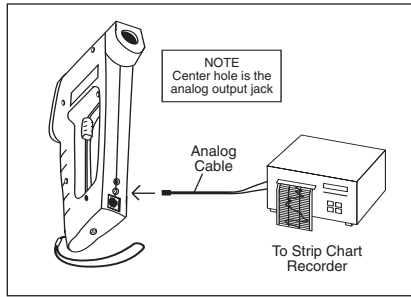

Figure 2-11 Recorder Hookup
4. To record the temperature profile of the moving surface, connect the IR thermometer to a strip chart recorder. Refer to Figure 2-11 for details.
2. Connect the analog output of the thermometer to a strip chart recorder as shown in Figure 2-11.